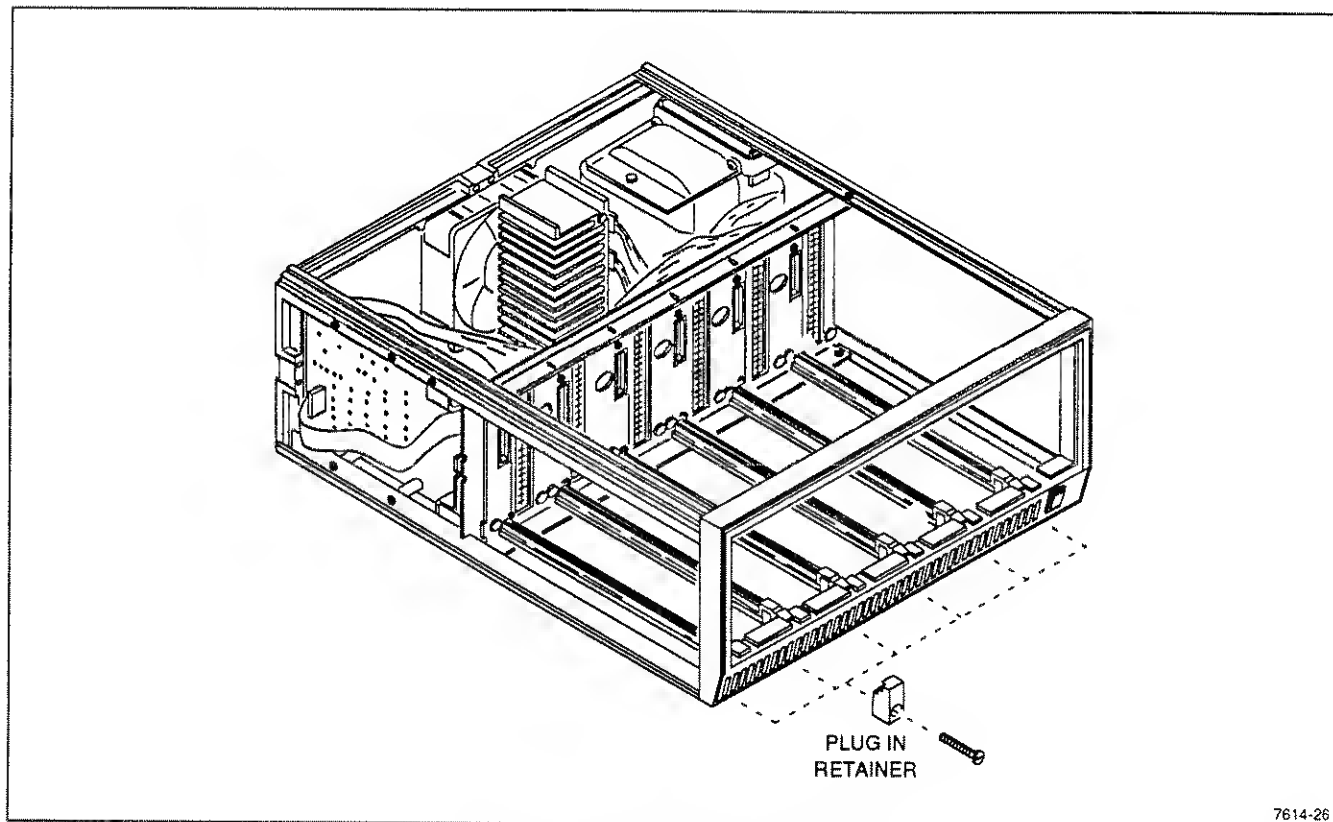

Fig. 2-10. Plug-in installation and removal.
2. Align the plug-in module chassis with the upper and lower guides of the selected compartment (see Fig. 2-10). Push the module in and press firmly to seat the circuit board in the interconnecting jack. (Remove the plug-in module by pulling on the release latch in the lower left corner of the plug-in module.)
To install the retainer clips, elevate the front of the power module with the bail. Install the retainer as shown in Figure 2-10. A T-20 Torx bit is required.